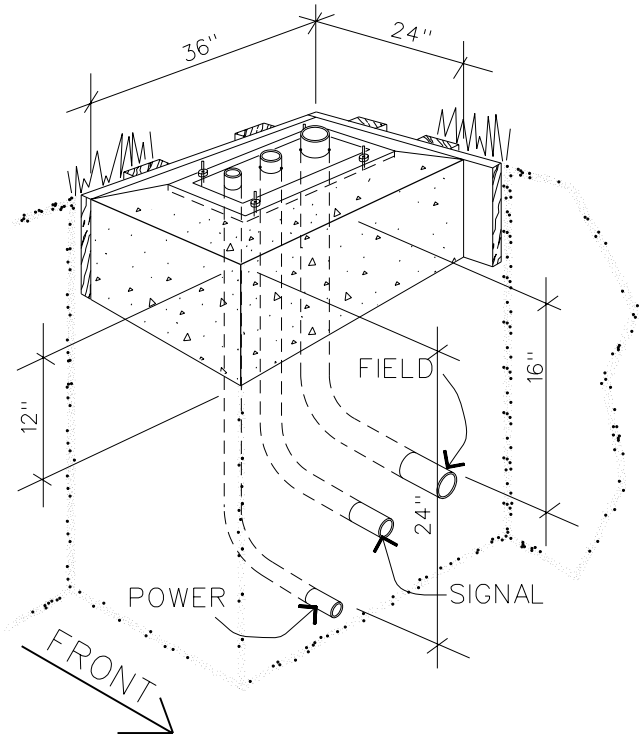

FIGURE 1
2. SEE FIGURE 1. POSITION SWEEP ELL CONDUIT SECTIONS IN HOLE AS SHOWN. COVER CONDUIT ENDS WITH TAPE TO SEAL OUT DIRT AND DEBRIS. BACKFILL SOIL TO ABOUT 12" BELOW FINISHED GRADE LEVEL.